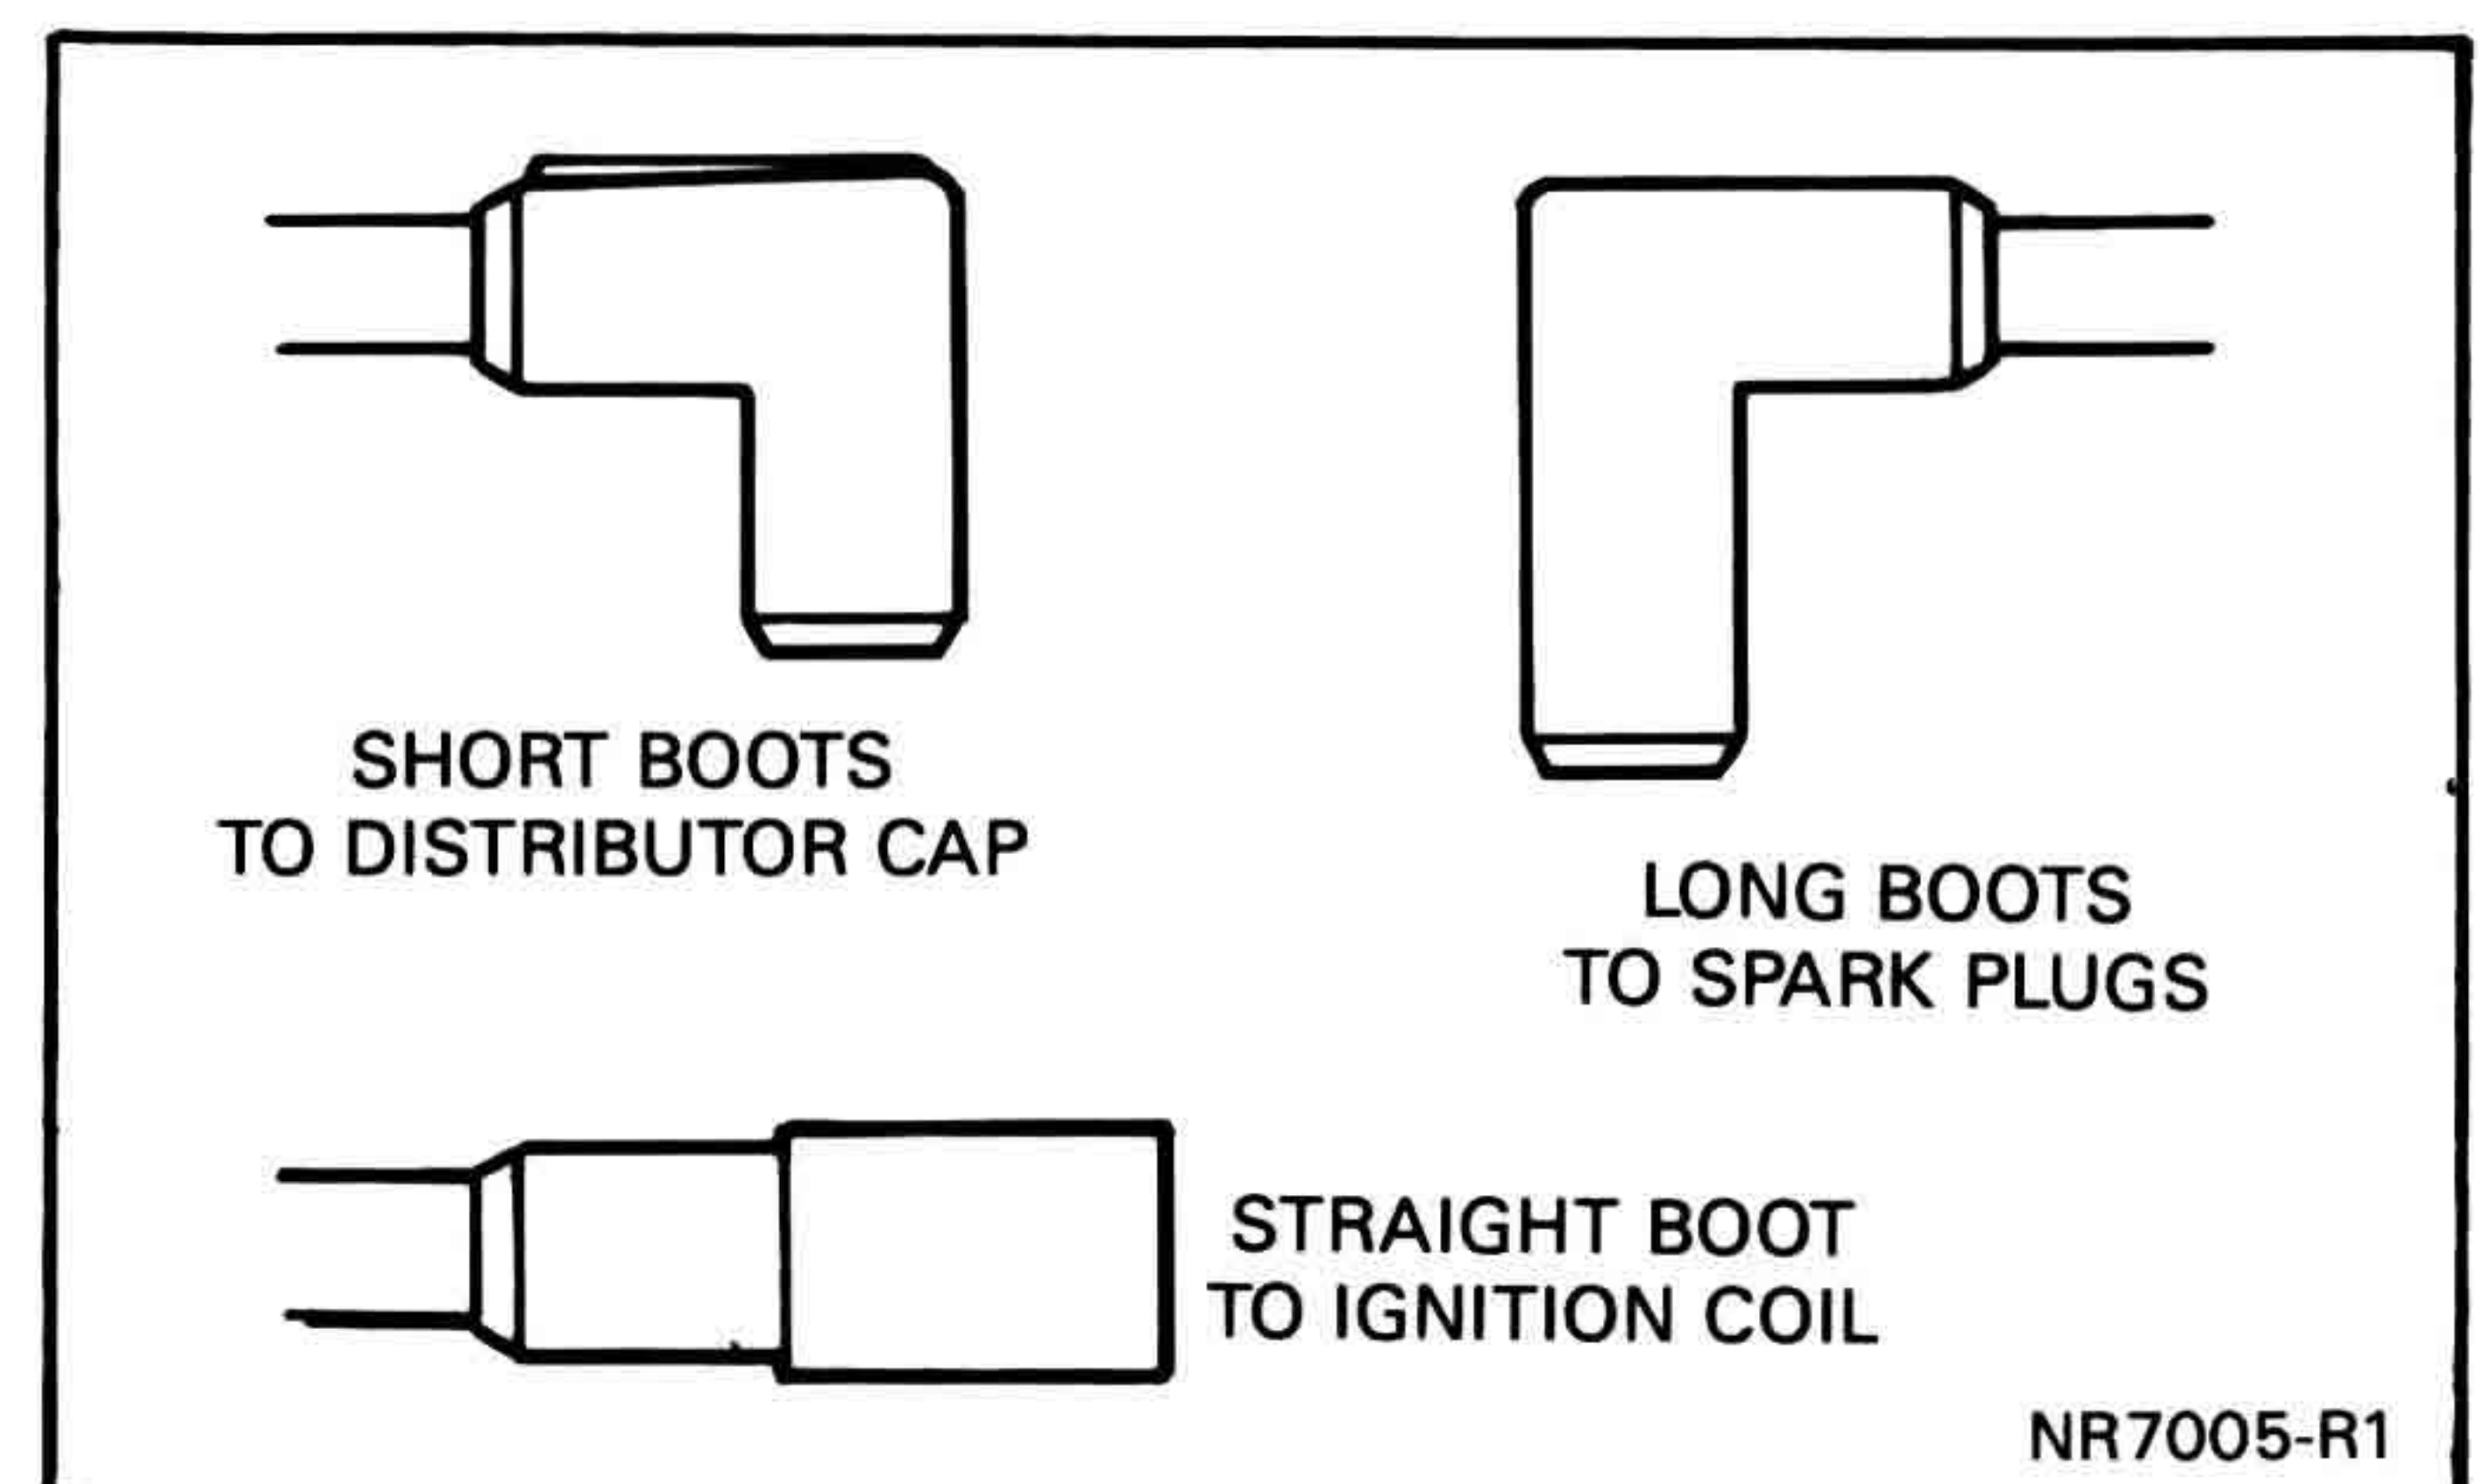

Figure 5 — Spark Plug Lead Connector Identification
15. Install spark plug and ignition coil secondary leads (see figure 5 and refer to notes made during step 3). Be sure leads are fully seated on spark plugs, distributor cap, and ignition coil.